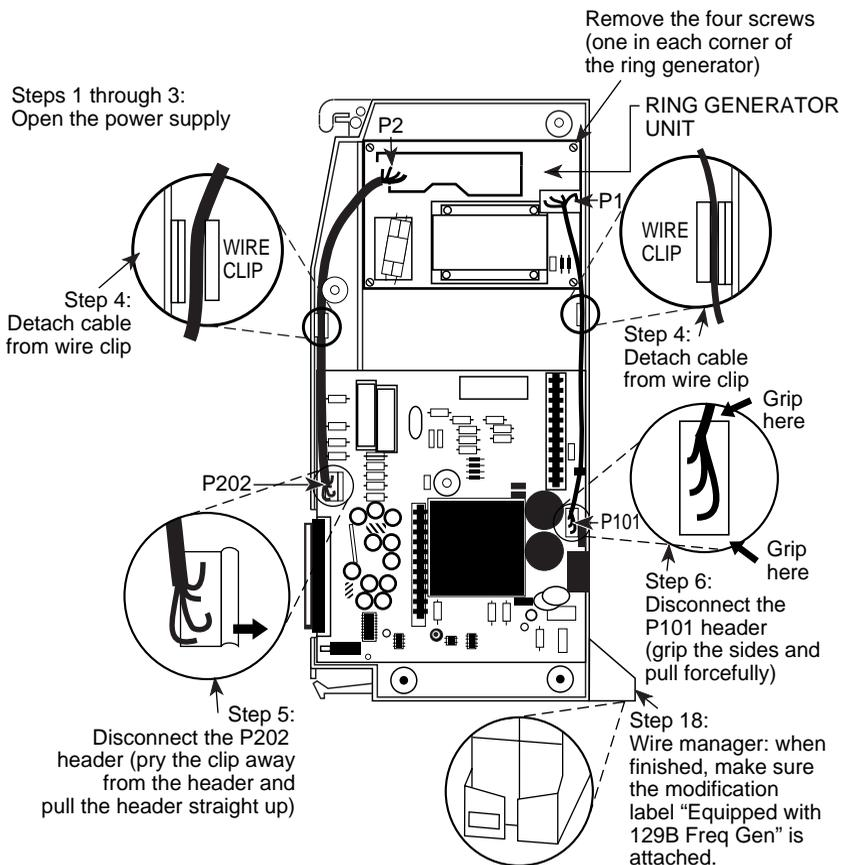

Figure 4-2. Replacing a Ring Generator
- ▶ 18. Verify that the modification label (Equipped with 129B Freq Gen) is attached to the front of the power supply (shown in Figure 4-2).